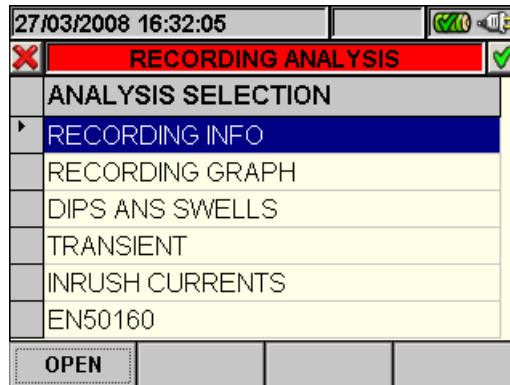

Fig. 96: Recording analysis (Reg-type data)
2. Press the **ESC** key (or the smart icon ) to exit the function and go back to the “Recording analysis” page (Fig. 96).
- The **ESC** key (or smart icon ) to exit the function and go back to the “Recording analysis” page (Fig. 96).